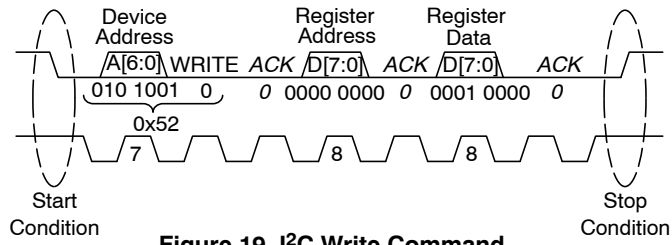

Figure 19. I2C Write Command
Figure 19 shows an I2C write operation. Write transactions begin with the master sending an I2C start sequence followed by the seven bit slave address (e.g. 0x29) and the write(0) command bit. The NOA1312 will acknowledge this byte transfer with an appropriate ACK. Next the master will send the 8-bit register address to be written to. Again the NOA1312 will acknowledge reception with an ACK. Finally, the master will begin sending 8-bit data segment(s) to be written to the NOA1312 register bank. The NOA1312 will send an ACK after each byte and increment the address pointer by one in preparation for the next transfer. Write transactions are terminated with either an I2C STOP or with another I2C START (repeated START).